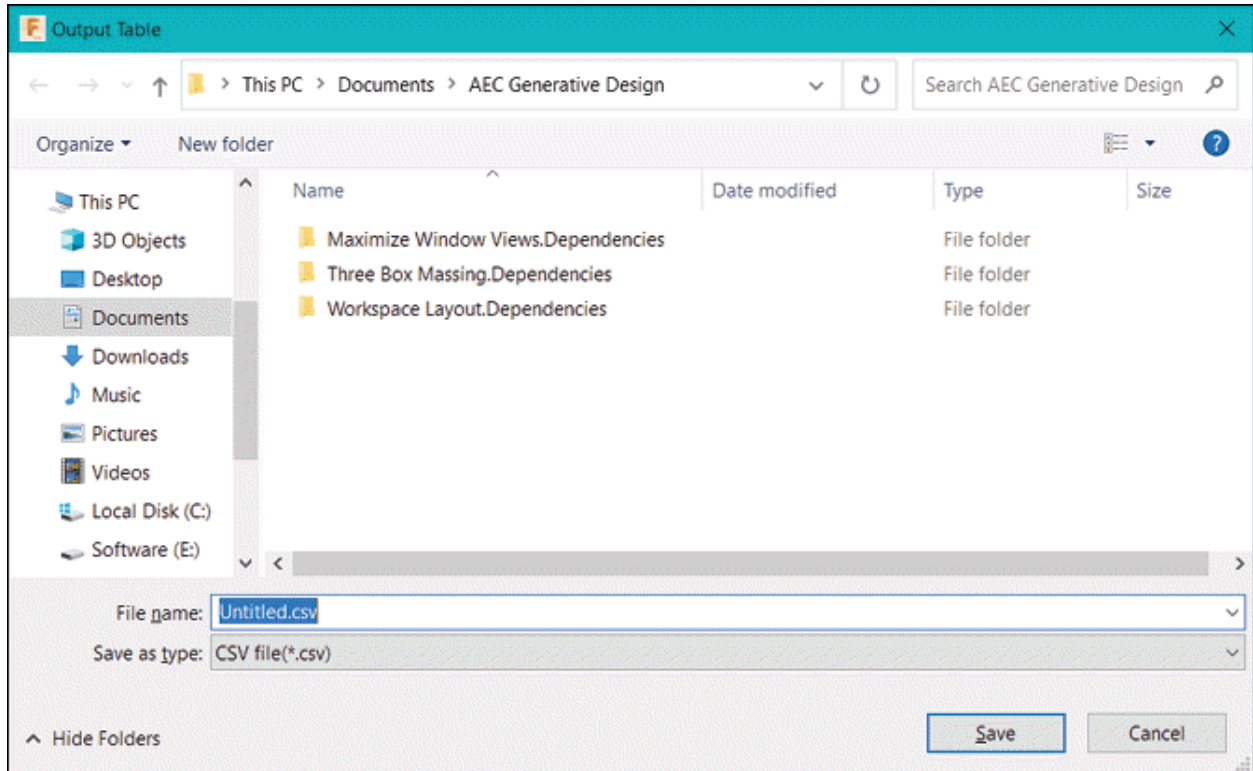

Figure-139. Output Table dialog box
- Select the table, parts list, or bend table in the Model Space. The **Output Table** dialog box will be displayed; refer to Figure-139.